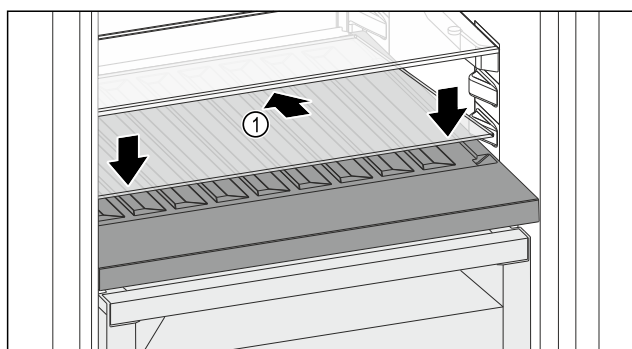

Fig. 120
- Place the glass shelf Fig. 120 (1) at an angle, sloping it downwards and backwards.
- Lower the glass shelf Fig. 120 (1) at the front.